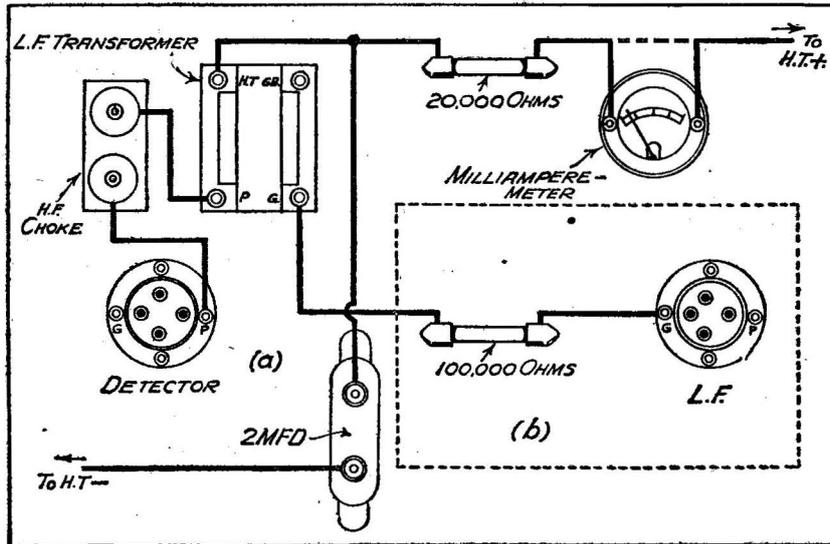

Fig. 3.—A decoupling resistance in the anode lead, and a resistance in the grid lead to cure instability.
and one showing a full scale deflection on 10 milliamps. is most convenient. Measure the anode current to each valve by breaking the connection between H.T. + and the anode component (resistance, transformer primary, choke, etc.) as shown in Fig. 3. The current passing can then be compared with that given on the maker's instruction sheet for the particular H.T. voltage in use. Remember that it is the voltage between the anode of the valve and H.T.—which counts and not the total battery voltage. Too low a current indicates (1) too much grid bias; (2) run-down accumulator; (3) defective valve. In the case of all-mains receivers it might also indicate that the rectifier valve is losing its emission, but the H.T. voltage would then be low. An unduly high anode current indicates (1) insufficient grid bias (probably a burnt-out resistance, if an all-mains set); (2) a break in the grid circuit; (3) valve oscillating; or (4) if an S.-G. or Pentode, screen voltage too high. To check for (3) touch anode terminal with damp finger; the current will change if valve is oscillating. If the anode current fluctuates when signals are not being received there must be a bad contact in either anode or grid circuit. To check, first short-circuit the anode components in turn to find which, if any, is wrong. Then do the same with grid circuit components. When the anode current to every valve is normal and yet reception is impossible it is fairly safe to assume that a component in either the grid or anode circuit is short-circuited.
Another cause of much exasperation is low-frequency reaction. This sometimes manifests itself as a constant whistle which accompanies all reception, and sometimes as a peculiar spluttering noise commonly referred to as "motor-boating." It is more common in older sets and becomes particularly troublesome when the high-tension battery begins to run down. The fault can often be cured by the well-known method of fitting a decoupling resistance in the detector anode lead and by-passing this with a 2 mfd. condenser. Figure 3(a) illustrates this point.